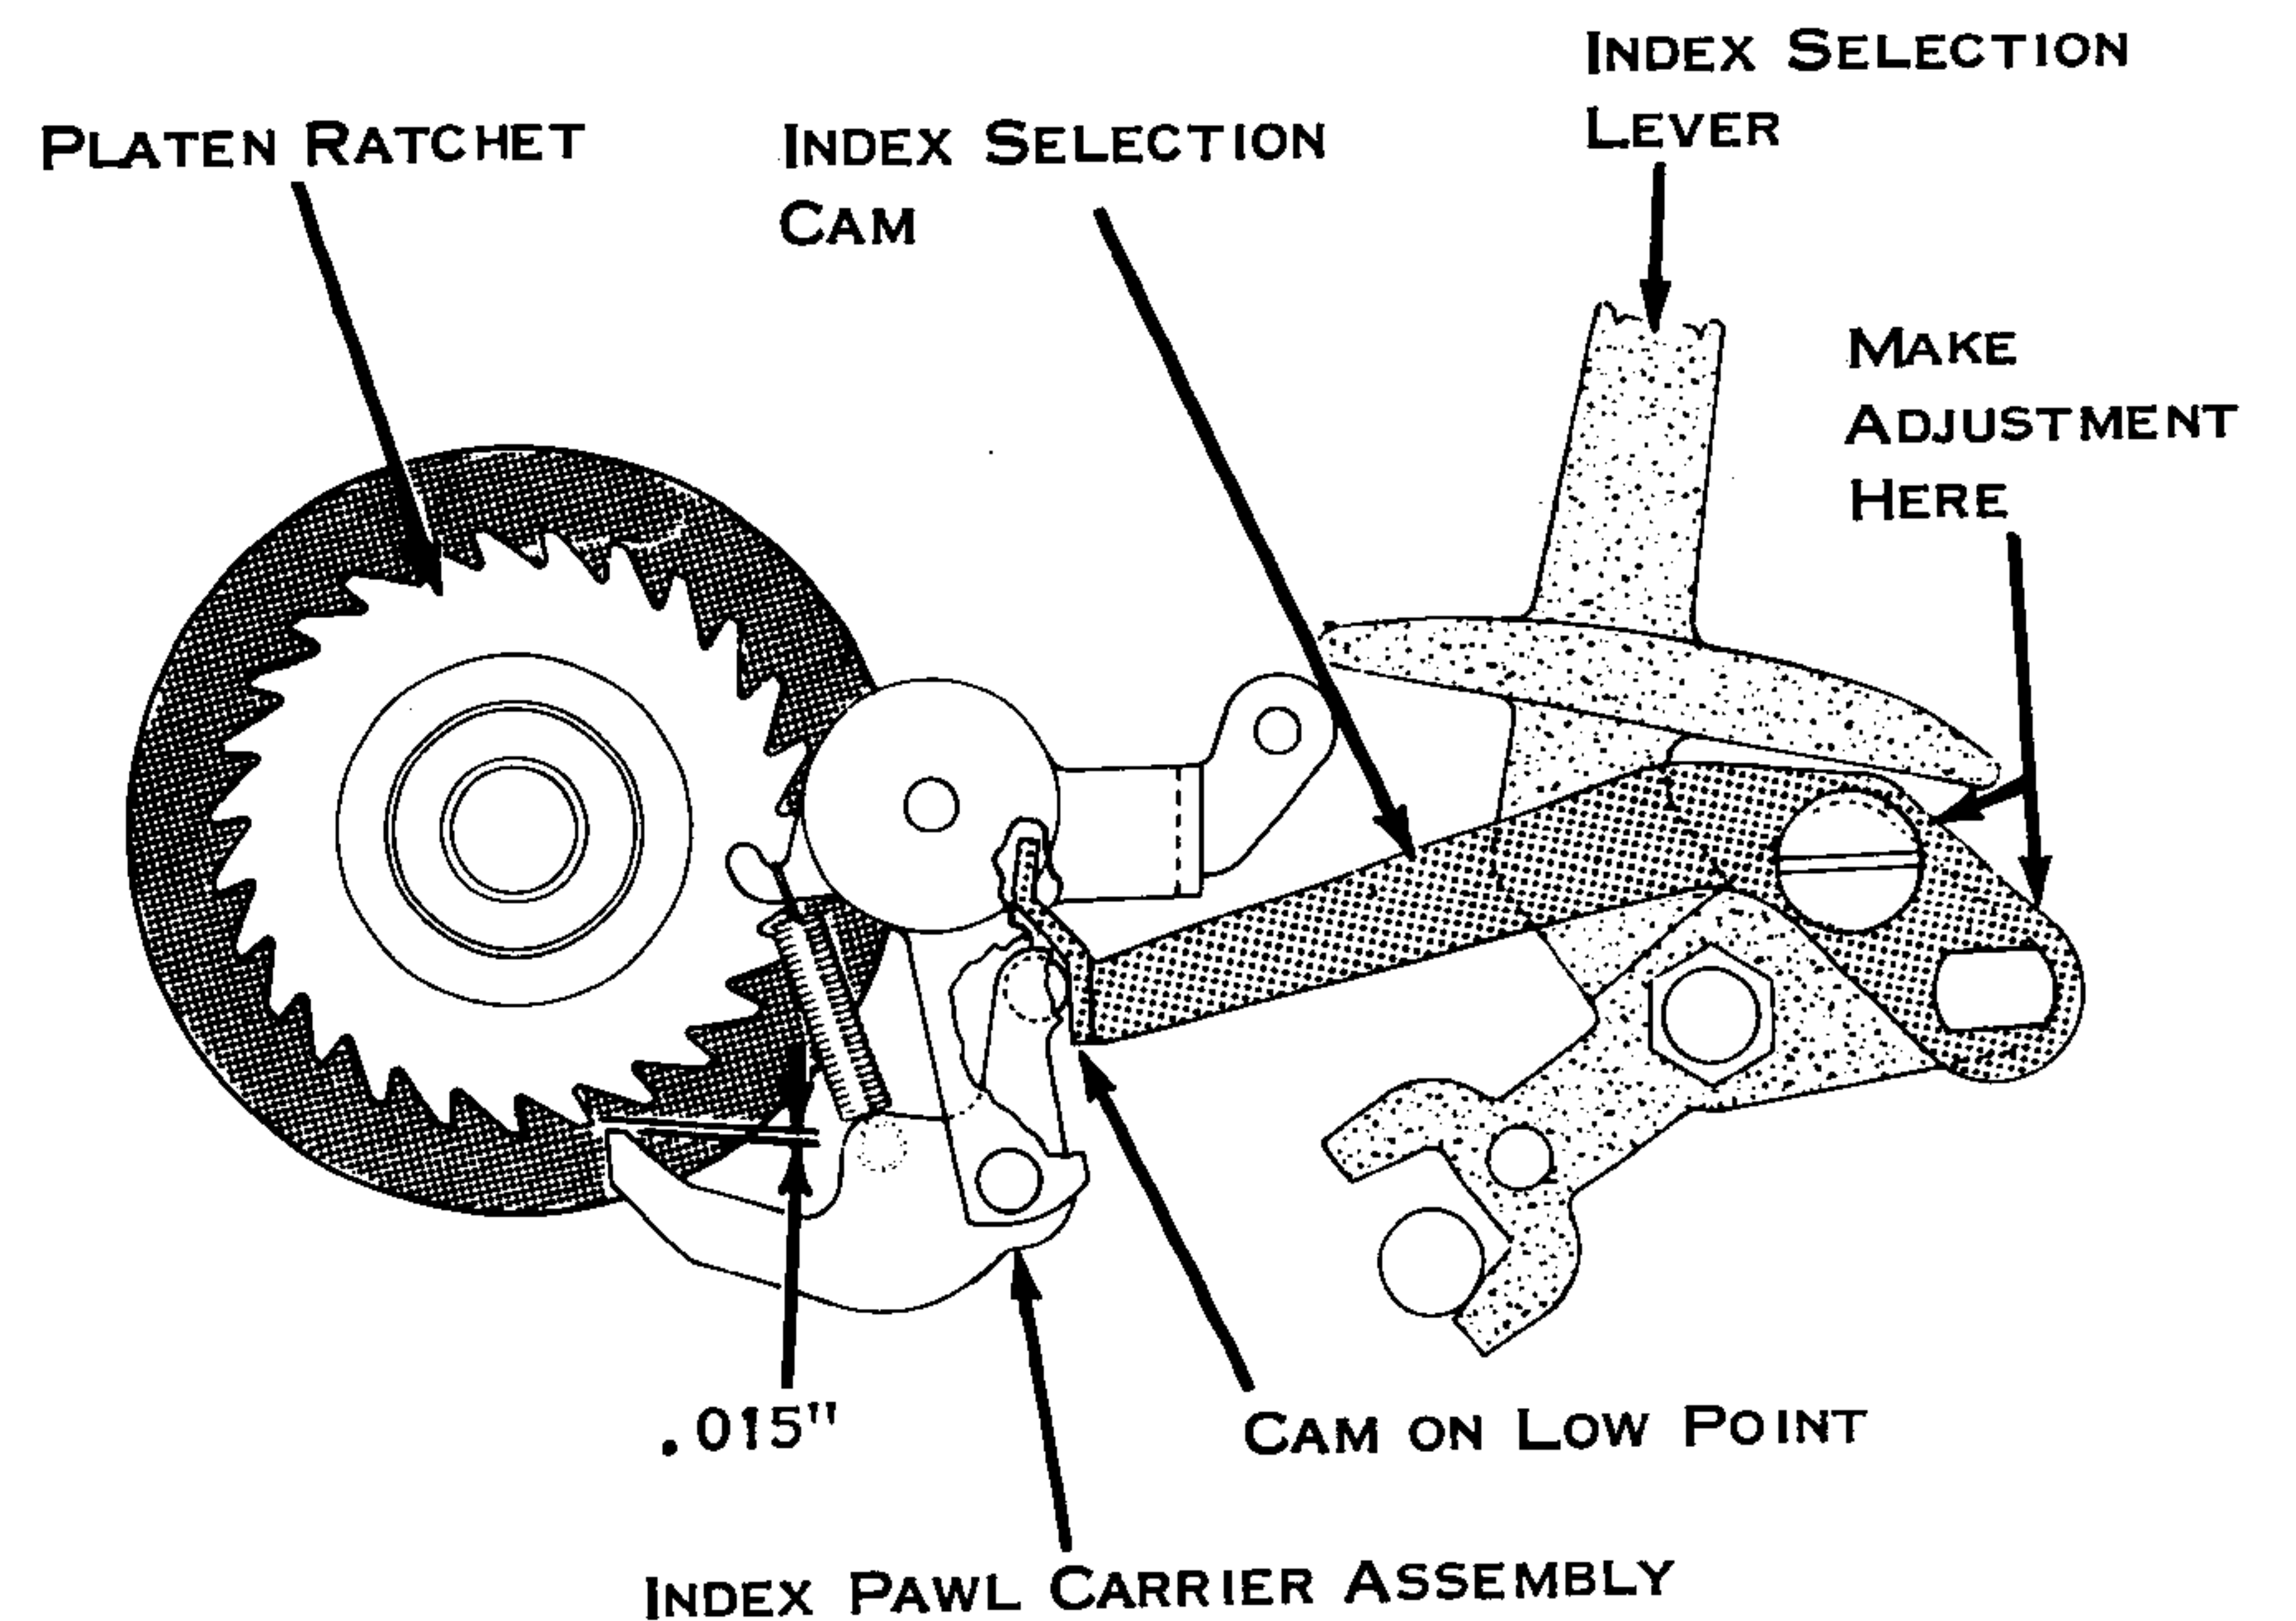

Figure 201. Index Selection Cam (New Style)
2. Index Link Stud, Old-Style (Fig. 201 & 202) - The stud should be adjusted forward or back in the slot of the pawl carrier so that one full tooth of motion is given the index pawl after it starts to drive the platen.
- a. New Style (Fig. 201) - With the cam on the low point (double line space), adjust the cam for .015" minimum clearance between the index pawl and ratchet.